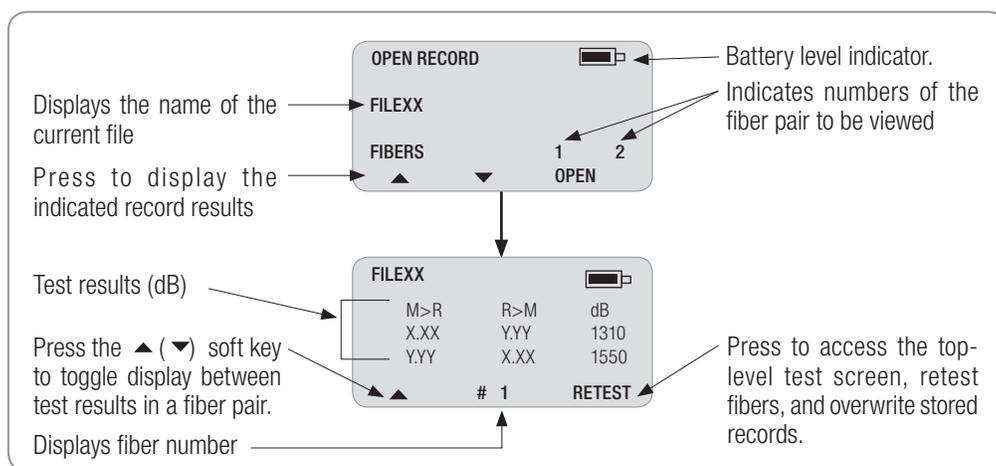

Figure 4-5. Reviewing Saved Test Results.
- From the MAIN MENU screen, select the REVIEW RESULTS option to access the OPEN RECORD screen (Figure 4-5).